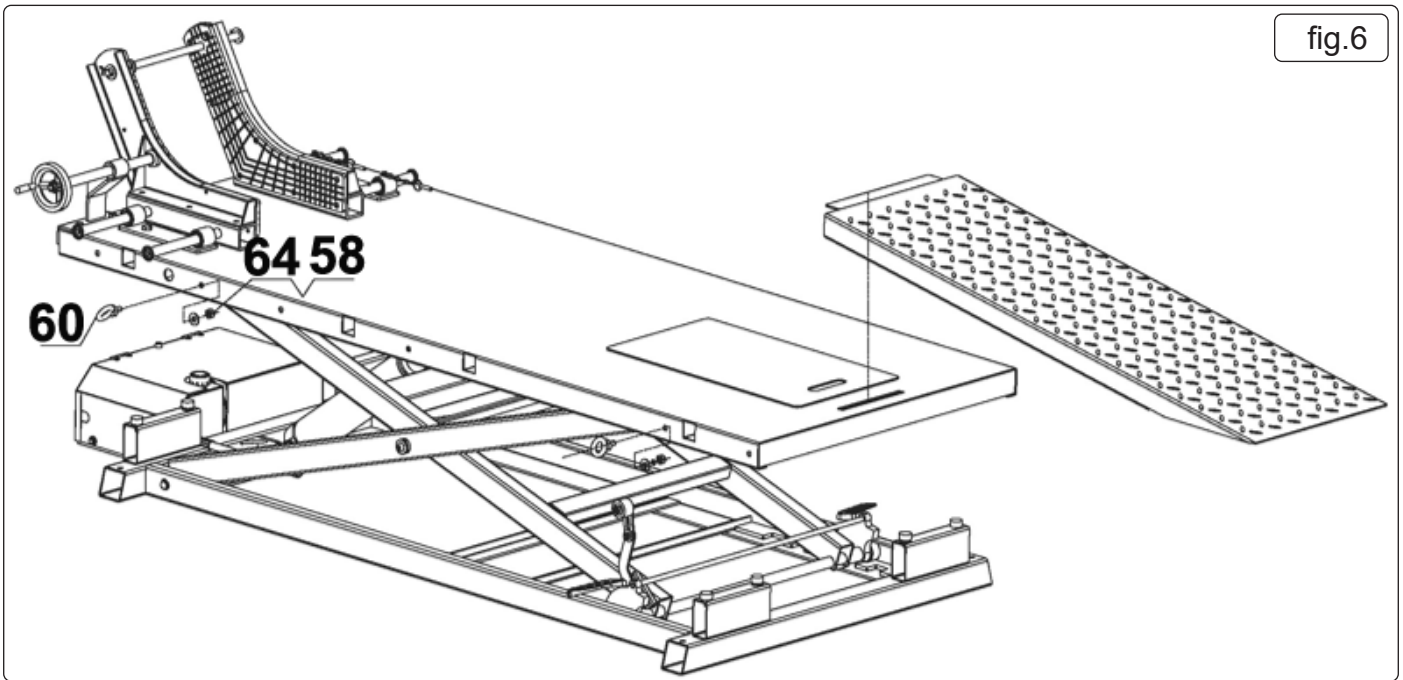

fig.6
- 5.5. Remove eyebolt (#60) from base and attach the eyebolt to the edge of the platform, (to be used as a tie down location point) fixed with large washer Ø10 (#64) and hex lock nut M10 (#58). Then attach sloping plate to the platform, fig.6.